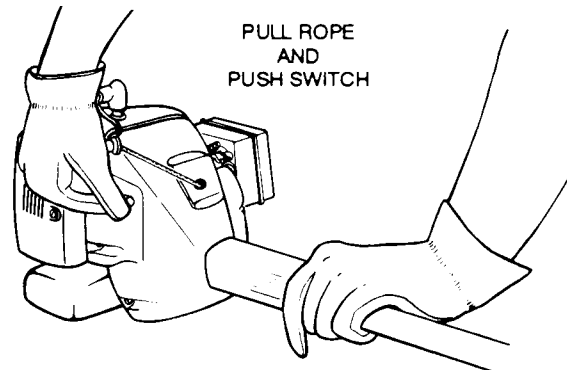

Figure 6-2A
1. Release throttle trigger. Let engine return to idle. Extend starter rope 4"-6" to absorb strain on starter components when engine stops. Push and hold ignition stop switch until engine stops. Allow starter rope to retract slowly. (Figure 6-2A)